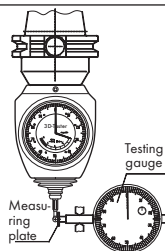

Fig. 2.1: Place testing gauge to sensing ball
4. Place testing gauge with measuring plate against sensing ball and turn spindle manually. Thereby the sensing ball must not be driven out (fig. 2.1).